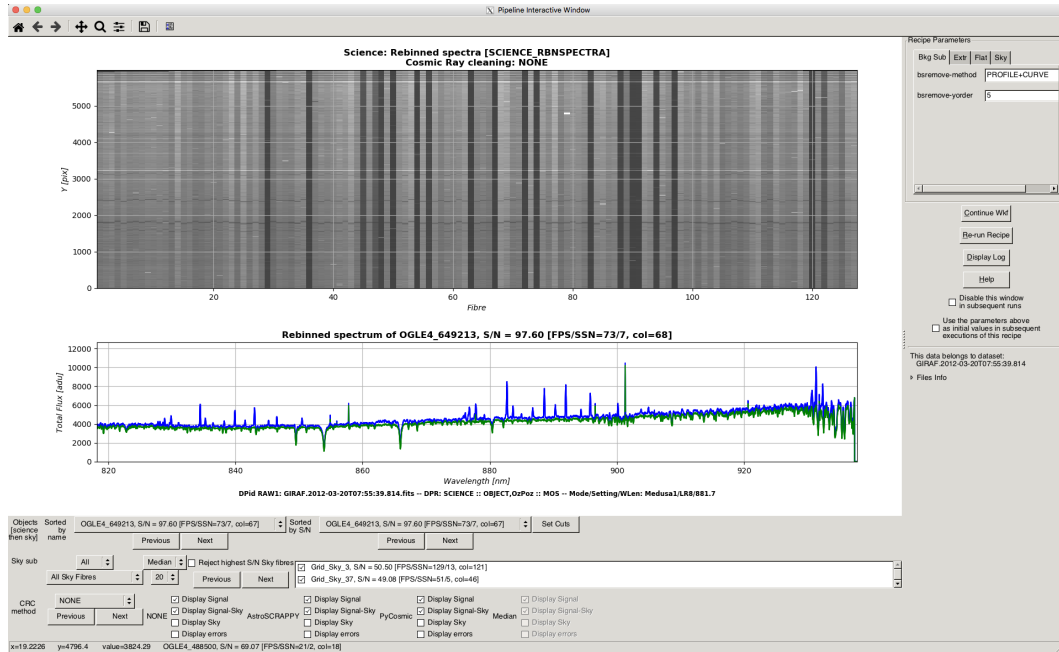

Figure 3.9: The Science Interactive GUI for the first dataset. The blue lines are the 'Signal', the green lines are the 'Signal-Sky'.
- The workflow will now proceed to the Science actor and after running the recipe open the Science interactive GUI, see figure 3.9.